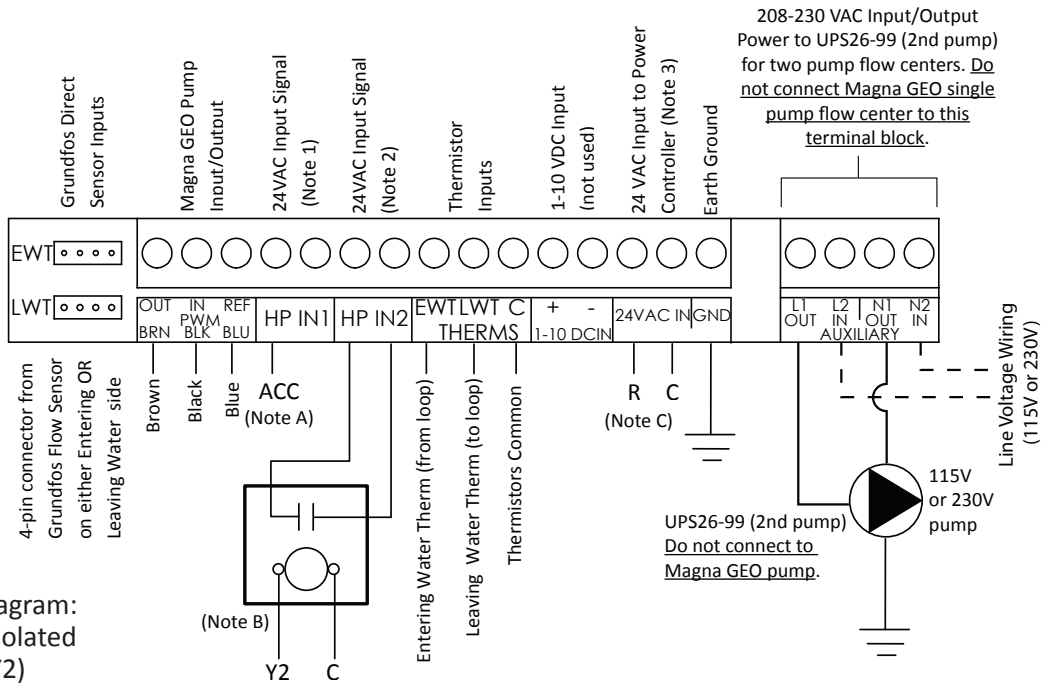

Figure 2a: Wiring Diagram: Single heat pump (isolated accessory relay for Y2)
3. Figures 2a through 2d provide controller terminal descriptions and wiring for a single unit; Figure 3 shows wiring for two heat pumps. Complete wiring using appropriately sized wire and replace controller’s cover.